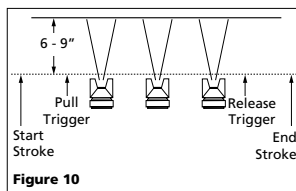

Figure 10
2. "Trigger" the gun properly. Start the gun moving at the beginning of the stroke BEFORE SQUEEZING THE TRIGGER and release the trigger BEFORE STOPPING GUN MOVEMENT at the end of the stroke. This procedure will "feather" (blend) each stroke with the next without showing overlap or unevenness (See Figure 10).